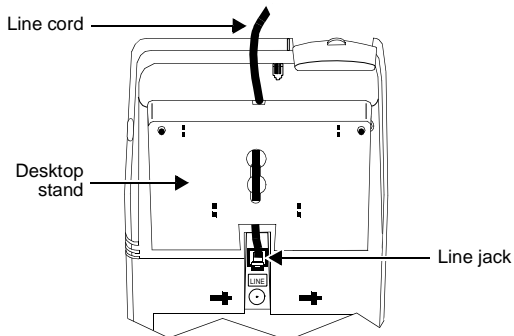

Figure 4. Attaching the Line Cord and Threading It Through the Slot at the Top of the Desktop Stand
4. Align the other end of the line cord so that it is threaded through the slot at the top of the stand. See Figure 4.